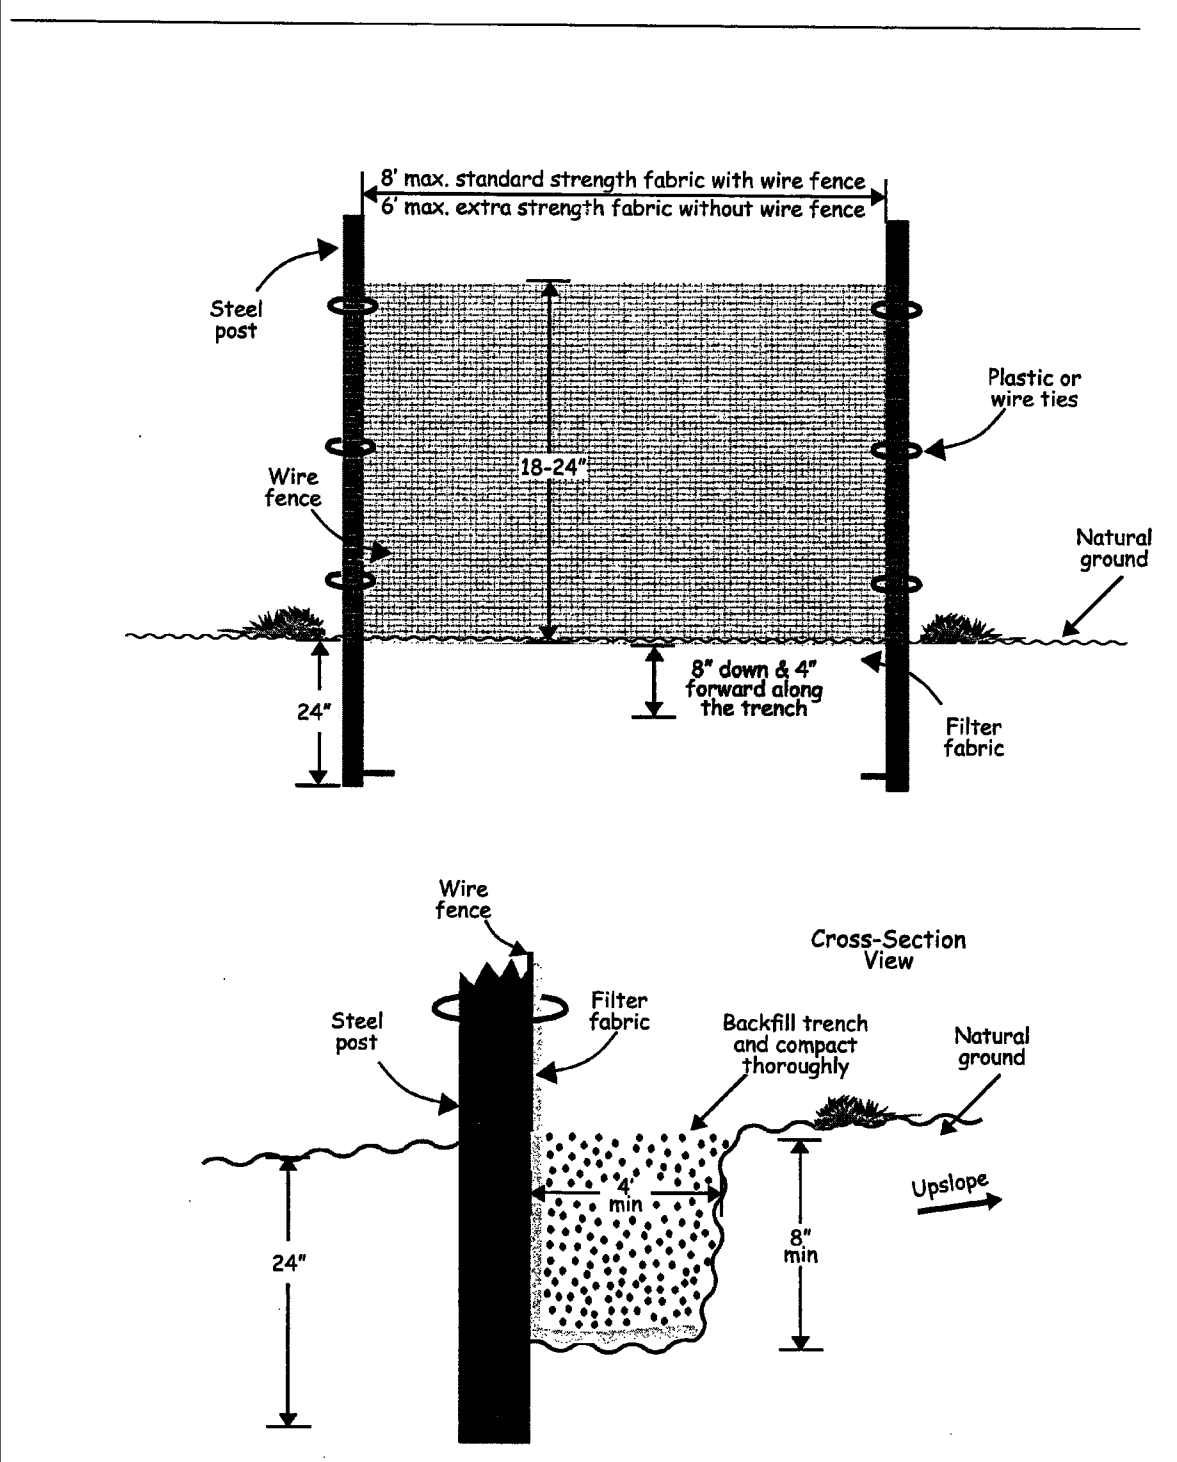

Figure 6.62a Installation detail of a sediment fence.
- Excavate a trench approximately 4 inches wide and 8 inches deep along the proposed line of posts and upslope from the barrier (Figure 6.62a).